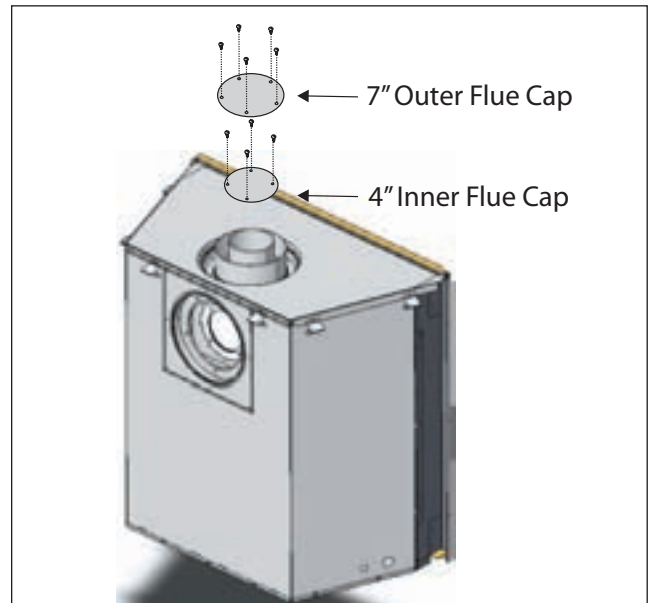

Figure 8a. Flue cap installation for Rear Vented fireplace.
1. Install the 4" inner flue cap on the top flue outlet and secure the cap in place with five screws, as shown in **figure 8a**.
2. Install the 7" outer flue cap on the top flue outlet, and secure it with five screws, as shown in **figure 8a**.